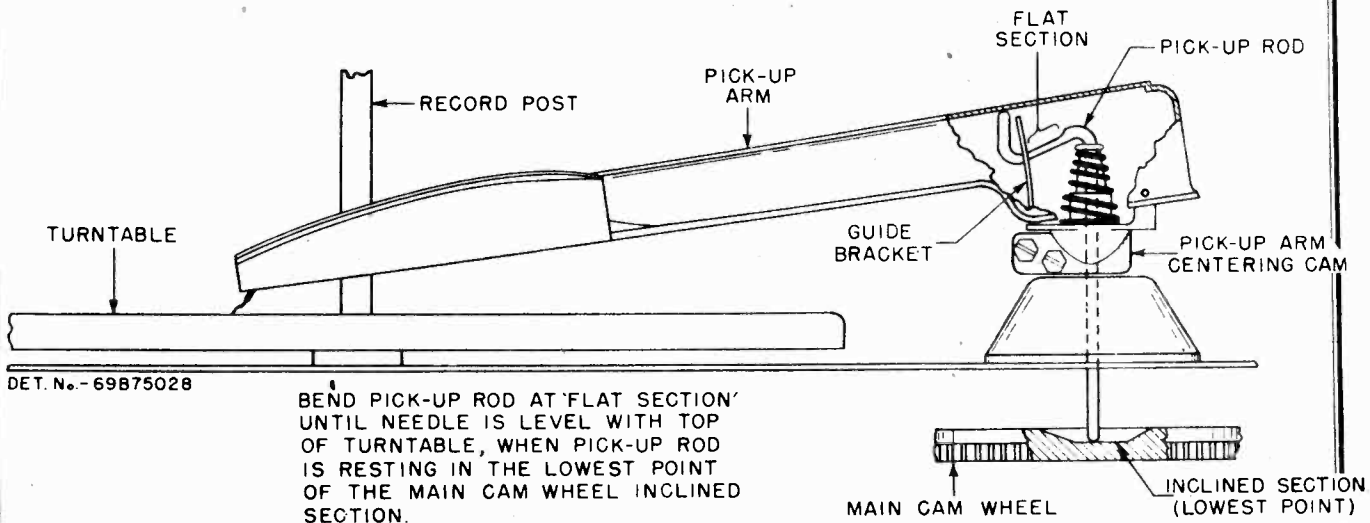

FIGURE 12 VERTICAL ADJUSTMENT OF PICK-UP ARM
The pick-up rod (Figure 12) controls the vertical movement of the pick-up arm.
2. Lift the pick-up arm straight up, exposing the pick-up rod. With long nose pliers, bend the pick-up rod (along its straight portion) in the required direction till the pick-up needle point is level with the top of the turntable. See Figure 12.